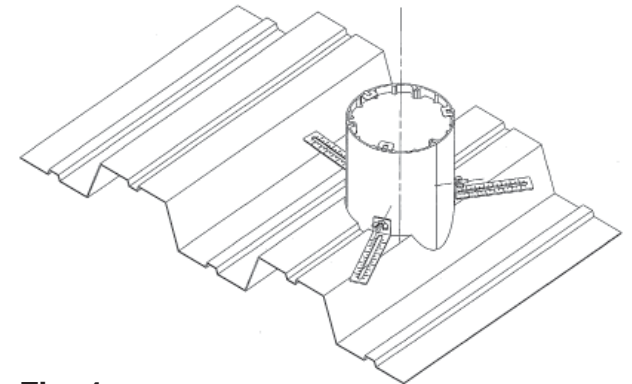

Fig. 4
Assemble brackets (ad) as required as shown in figures 4 and 5. Brackets are marked to assist assembly. Turn hexagonal head screws (ae) horizontally to support the disc (at). Insert discs (at) at top, center and bottom. Bend brackets (af) for center and bottom positions to fit inside the assembled tube segments.
2. Install assembly into cut hole, see Fig.4. Check that the assembly is installed plumb to the deck. Attach to deck with sheet metal screws (not supplied).